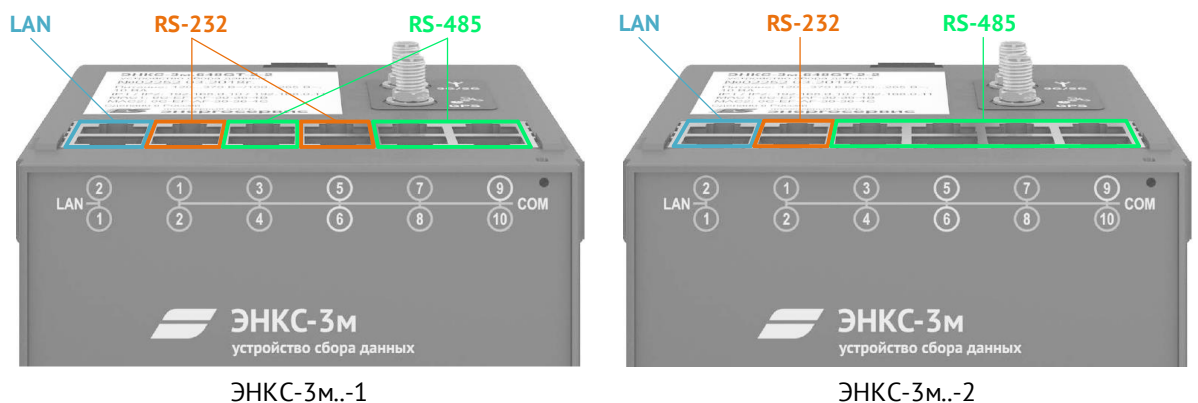
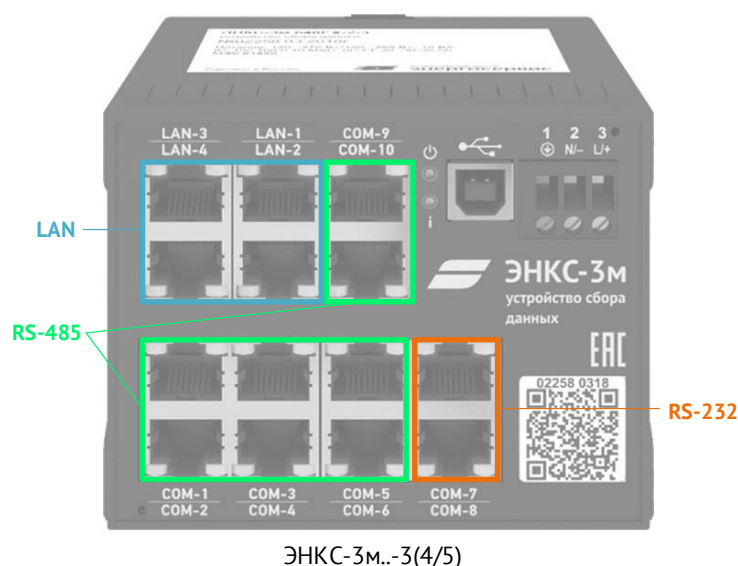

Figure 2.1. Correspondence of ENCS-3m interfaces (hw 4.2)
Figure 2.2. Correspondence of ENCS-3m interfaces (hw 5)
2.3.2 Fig. 2.1 and fig. 2.2 show mapping schemes used since 2020 in the ENCS-3m, where each UART is designated as COM-1...COM-10, regardless of the type of its interface (RS-232 or RS-485).